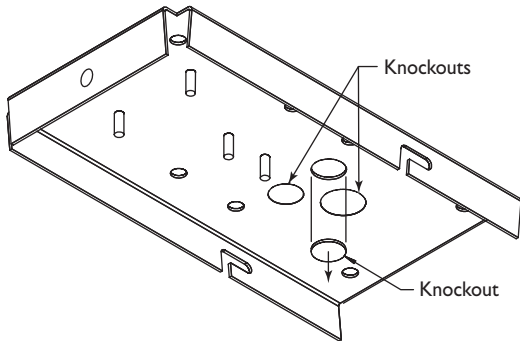

Figure 6 Knockouts
2. Mark the wall for bolt anchor holes. At least six (6) 8-mm ($\frac{5}{16}$ -in) bolts will be needed.
4. Decide how wiring will be routed into the housing. If needed, remove the appropriate knockout. Two PG 13.5 ($\frac{1}{2}$ -inch) and one PG 21 ($\frac{3}{4}$ -inch) are provided. See **Figure 6**.